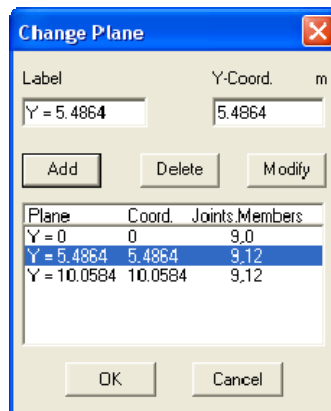

Figure 6-1 Change Plane dialog box
- From the Options menu, choose Change Plane. The dialog box of Figure 6-1 appears.